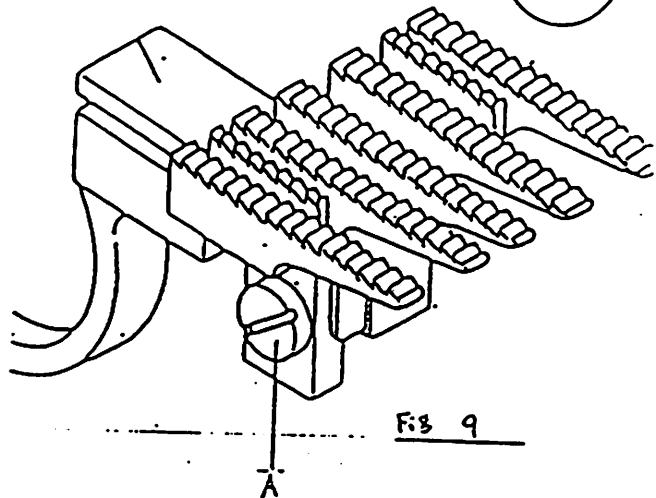

Fig 9
11) Height of feed dog (Fig. 9)